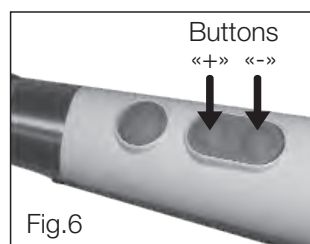

Fig.6
6.7. Adjusting the rate of "diagnostic" current rise (fig. 6)